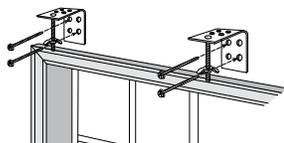

figure 8
3. Remove brackets from headrail. Starting at one side of the window, match a bracket to the marking on the wall and mark the location of the holes. Pre-drill the holes using a $\frac{1}{16}$ " drill bit. If using fasteners (not provided), you may need a larger drill bit. Install bracket using #8 x $1\frac{1}{2}$ " screws (figure 8).